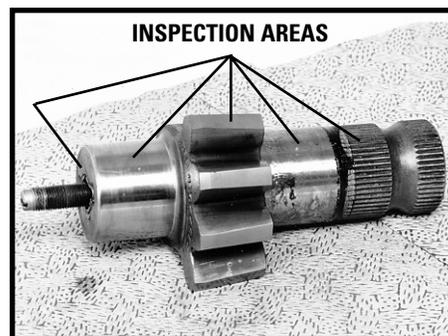

Figure 96
7. Inspect the sector shaft (48) bearing and sealing areas and sector teeth contact surfaces for brinelling or spalling. SEE FIGURE 96. Run your fingernail edge across these areas to detect steps. Inspect also for cracks. Remove any masking tape from the shaft serrations and inspect for twisted or otherwise damaged serrations. If any of these conditions exist, replace the sector shaft.
**NOTE: A service shaft assembly will have the adjusting screw (49) and retainer (50) assembled into it. The screw (49) and retainer (50) can be serviced separately if required.**